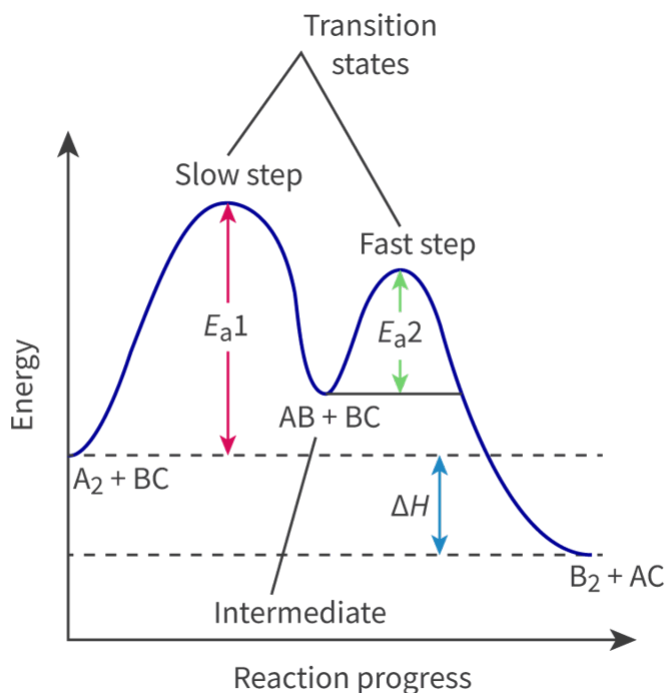

Figure 3. An energy profile diagram for a multi-step reaction showing the activation energies, E_{a1} and E_{a2} and the enthalpy change (ΔH) of the reaction.
- The enthalpy change of the reaction is the distance between the reactants and products and can be marked on the diagram as shown in **Figure 3**.
More information for figure 3